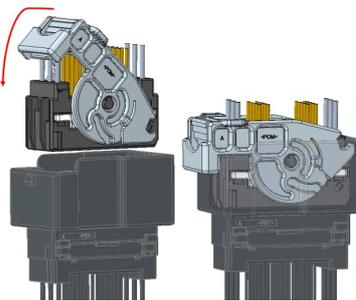

Fig. 19.
- (1) Release Lever lock while push Final lock.
- (2) Release Lever and keep Initial lock condition.
- (3) Release female housing from male housing.
- (4) For Lever unlock, do the reverse sequence in Fig. 19